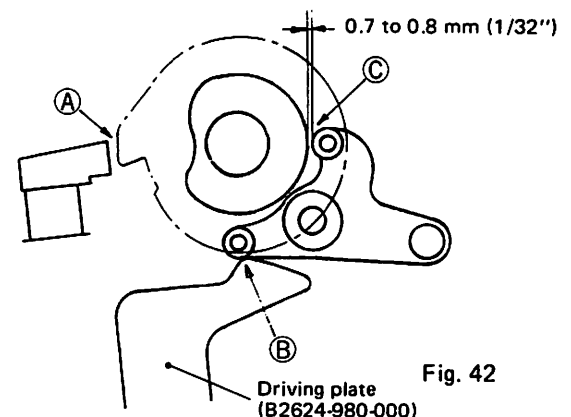

Fig. 42
If the clearance at ③ is too small, the trimmer knife will shake with a click during low speed operation. If the clearance is too much, the start pedal will become heavy. (Fig. 42)